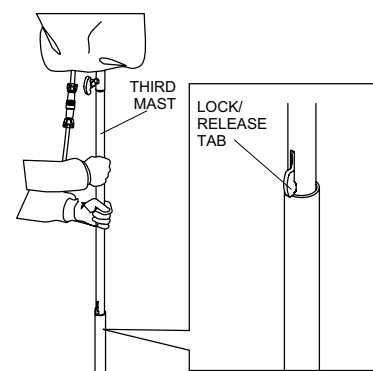

Figure 20. Raising the Third Mast
2. To raise the mast higher, raise the third mast until the lock/release tab pops out. The tab will automatically rest on the second mast. See Figure 20.